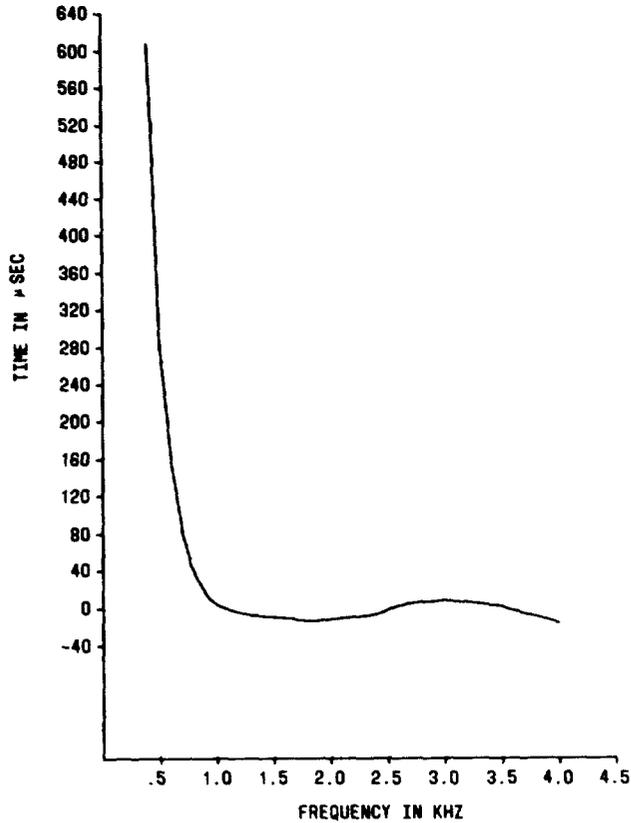

Fig. 5—Envelope Delay Distortion
4.03 Figure 5 gives the envelope delay distortion for the J99343PL (L1 and L2) repeaters.